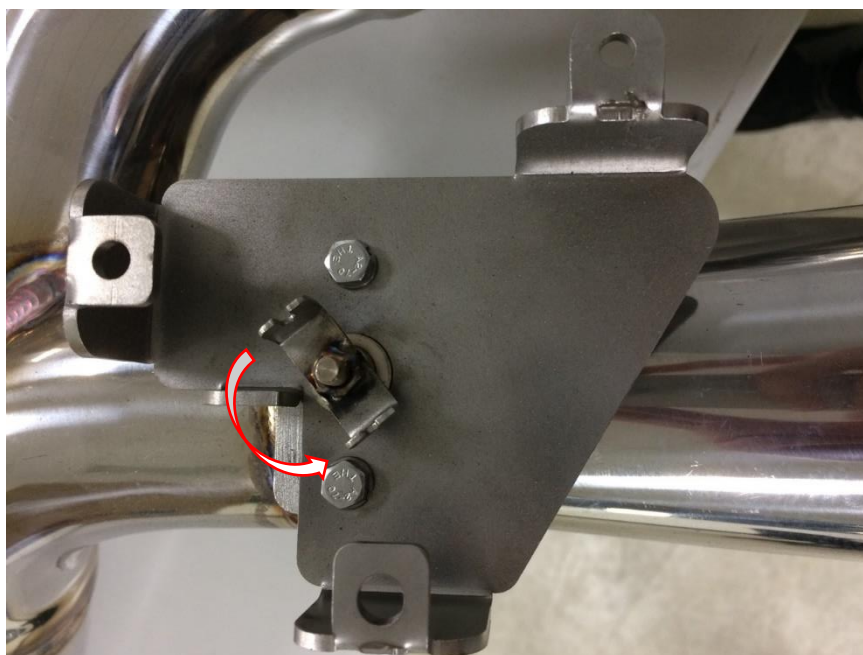

Fig. 19
2. The iPE muffler valve rotates the central axis to the end in the direction of the arrow. (Fig 19)